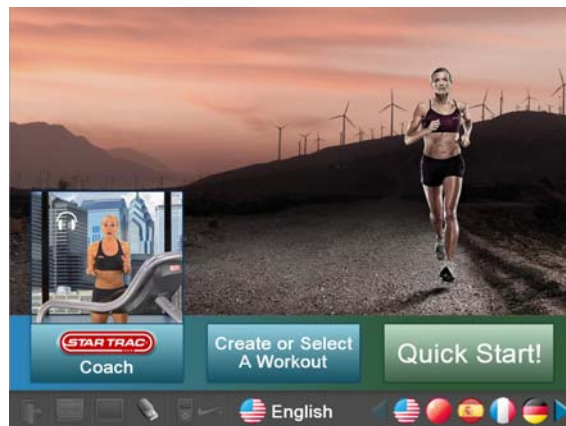

Fig. 1
1. Reboot the machine to clear the EC 42. Once the first splash screen is shown (Fig.1), press the following three keys: channel ‘+’, volume ‘+’ and ‘3’.